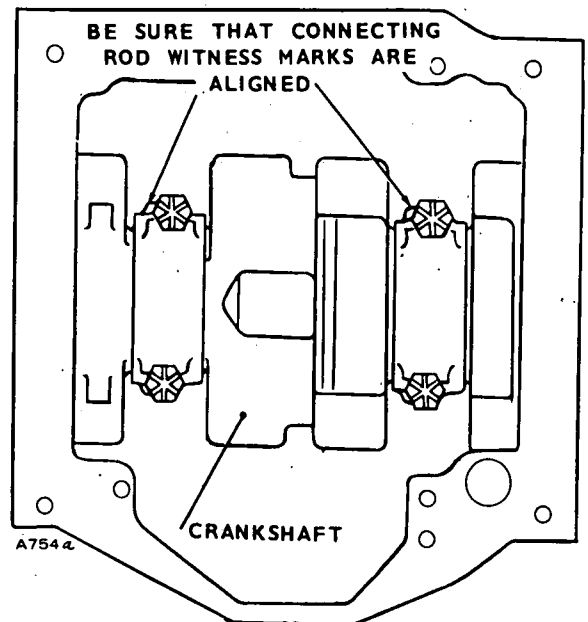

FIGURE 53. CONNECTING ROD CAP
5. Position each connecting rod on the crankshaft and oil the journal and install its rod cap with bearing half. When installing the rod cap, position so the raised witness mark on the forging matches the mark on the connecting rod (Figure 53).